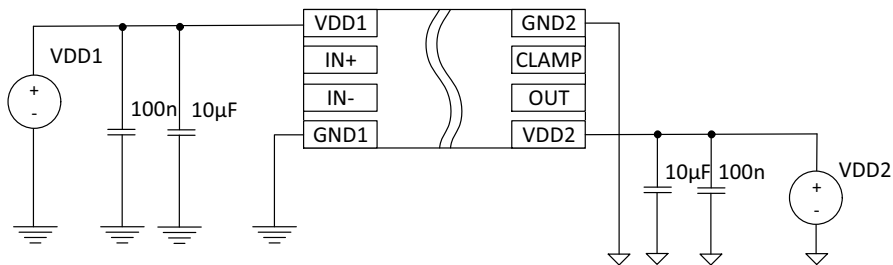

Figure 27. Unipolar Power Supply NCD57090A/D/F
- In Unipolar power supply the driver is typically supplied with a positive voltage of 15 V at VDD2. Dynamic turn on through the internal IGBT input capacitance could be prevented by Active Miller Clamp function (NCD57090A/D/F). CLAMP output should be directly connected to IGBT gate (Figure 27)